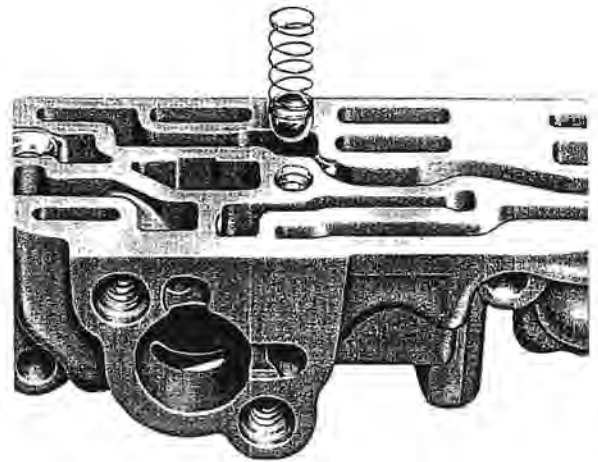

Fig. 52 Positioning oil check ball valve
Position the oil check ball valve (24) on its seating in the front valve body (27) and fit the spring (23) and cover plate (22). The valve seating will be found in the passage adjacent to the centre screw hole (see Fig. 52).